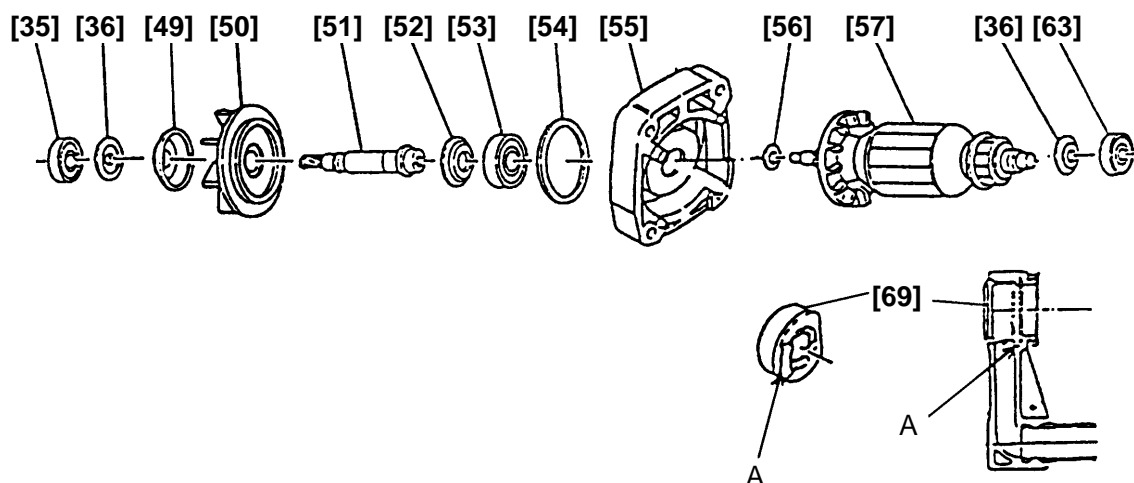

Fig. 18
- (3) When mounting the Nozzle Seal [69], ensure without fail that the section marked 'A' is properly aligned with and fitted into the groove on the nozzle, as indicated in Fig. 18.